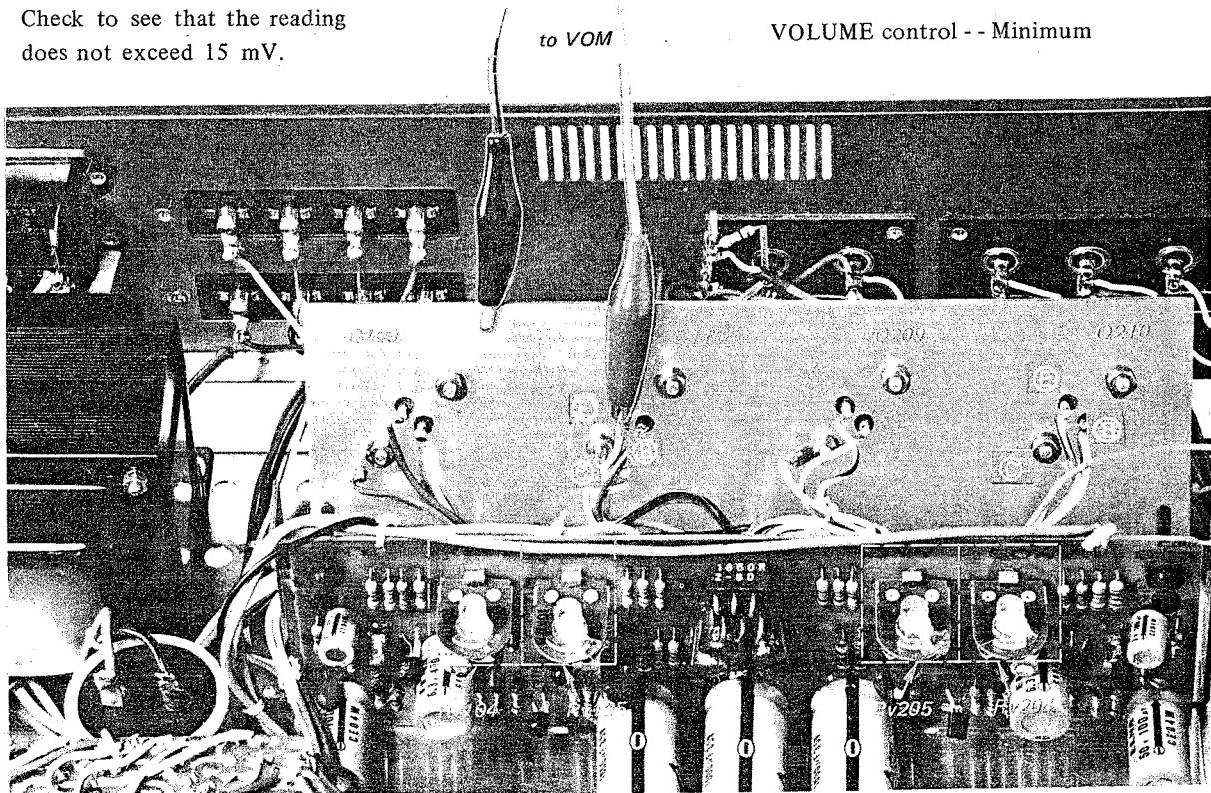

Fig. 5-1 VOM connection point and parts location
2. Connect the dc voltmeter between the emitter of Q110 and ground, as shown in Fig. 5-1.
- Set the semi-fixed resistors (Fig. 5-1) on the power-amplifier board as follows: